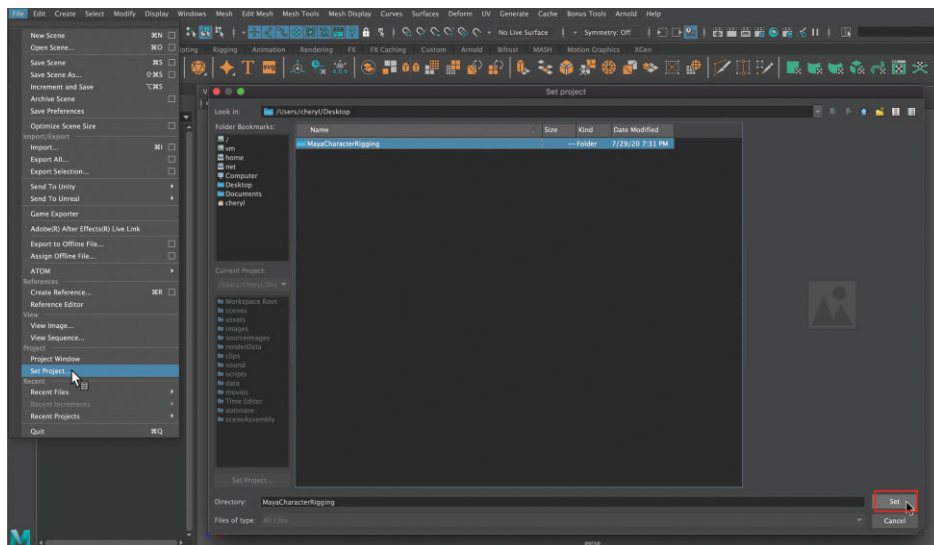

FIGURE 0.6 The Set Project window.
1. Go to **[File > Set Project...]**. The Set Project window opens. (Figure 0.6)